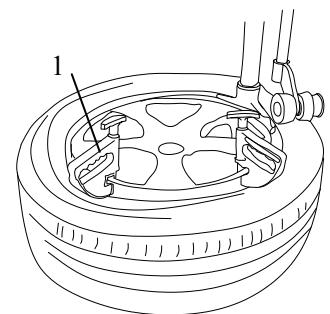

Fig. 12
2. Make tyre top bead upon rear of demounting/mounting head and below front of demounting/mounting head, move right pressing arm and make sure it is locked, pull handle D down to make roller C,G to press top bead to position below demounting/mounting head. Lock pressing block 1 on rim edge, rotate turntable, finish tyre mounting (fig 12).